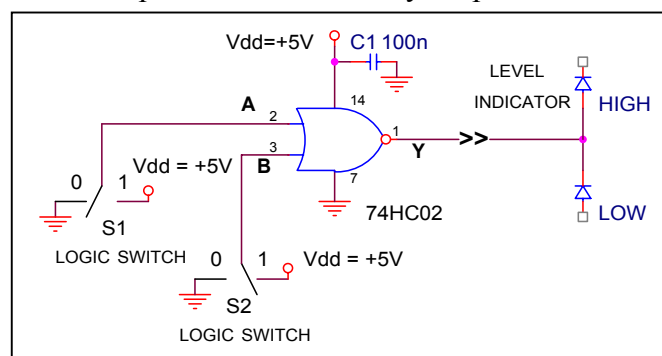

Figure 5.9 The 2-input NOR gate.
2.1. Connect the 2-input NOR gate (74HC02) as shown in Figure 5.9. Remember to leave the Power Supply turned off, until you are sure that your circuit is wired correctly. Connect the Y (output) of the gate to the Logic Level Indicator. Connect the input A to the LOGIC SWITCH S1 and input B to the LOGIC SWITCH S2 of your PROTO-BOARD.
10	Circuit of Figure 5.9 connected and equipment used correctly